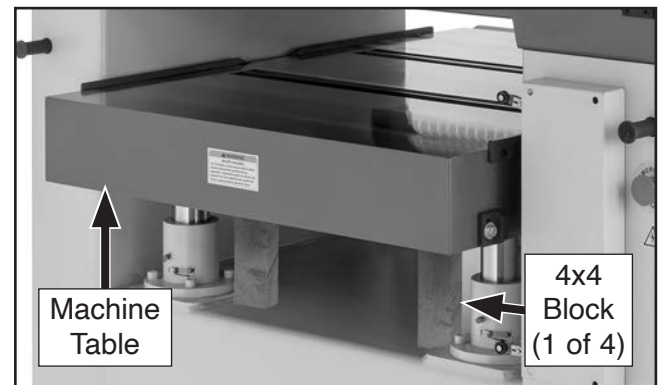

Figure 86. Table supported by 4x4s (shown from rear of machine).
4. Raise machine table slightly and place 4x4 blocks next to each table column, then lower table until it rests on blocks (see **Figure 86**).